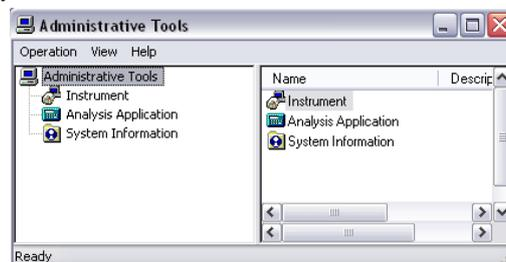
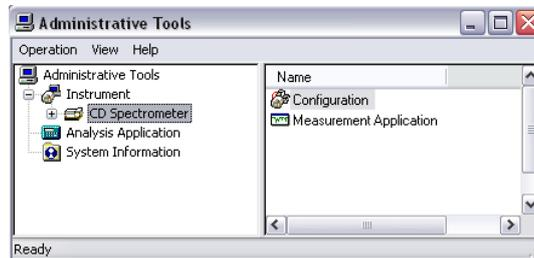
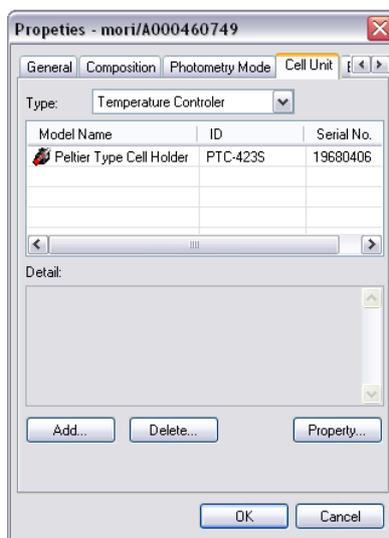

Figure 2.1 [Administrative Tools] window
Figure 2.6 [Administrative Tools] window
Figure 2.9 [Administrative Tools] screen after a successful installation
Registration of the Peltier accessory is done from the [Administrative Tools] window. Open the [Administrative Tools] window of Figure. 2.1 and to display the [CD Spectrometer] menu shown in Figure. 2.6 (the [CD Spectrometer] menu is in the [Instrument] menu of the [Administrative Tools] window).
- (9) Click the <OK> button of Figure. 10. It returns to the screen shown in Figure. 2.9.
- (10) Click the <OK> button of Figure. 2.9. It returns to the [Administrative Tools] window of Figure. 2.6.
- (11) The registration procedure is completed by closing the [Administrative Tools] window of Figure. 2.6.